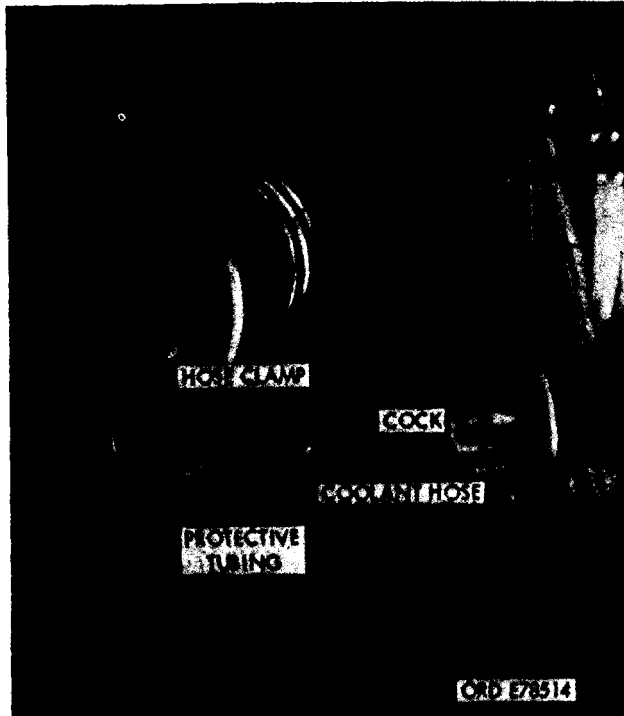

Figure 704. Outlet for heated coolant.
- (3) Remove block plug at turbocharger (fig. 704) and install cock 543852.